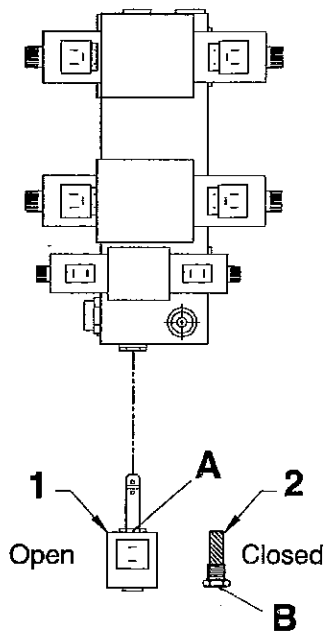

Figure 3.23: Main Valve, Open and Closed Center.
2. The solenoid valve on the bottom of the main valve is installed as standard equipment. This valve provides **OPEN** center operation of the system. This is OK for the newer tractors that have the load sense system. A special plug can be installed to switch this to closed center (refer to Figure 3.23).
Open/Closed Center (Refer to Figure 3.23)